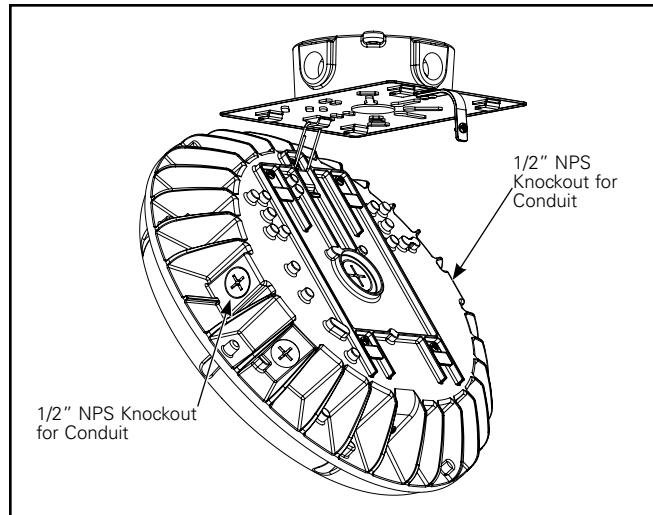

Figure 4.
5. While the fixture hangs from the quick mount plate loop, remove the ½" NPS knockouts, connect conduit to the fixture, and secure with teflon tape (Figure 4). The ½" NPS Knockouts are directly opposite one another on the fixture; do not use the Selectable Lumen Switch Knockout to connect conduit.